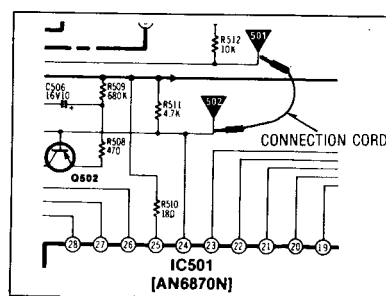

Fig. 24
2. Connect a wire between TP501 and TP502 terminal (See fig. 24).